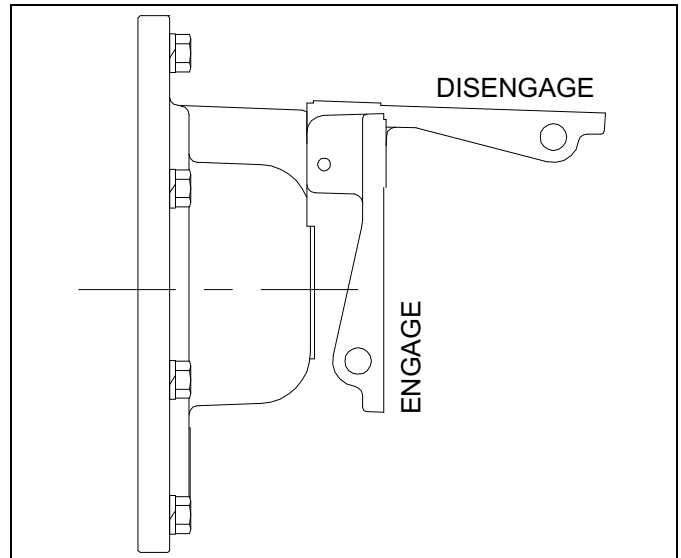

Figure 3-5: DP - Manual Lever Kickout
1. The manual freespool clutch is operated by pulling lever kickout (**See Figure 3-5.**)